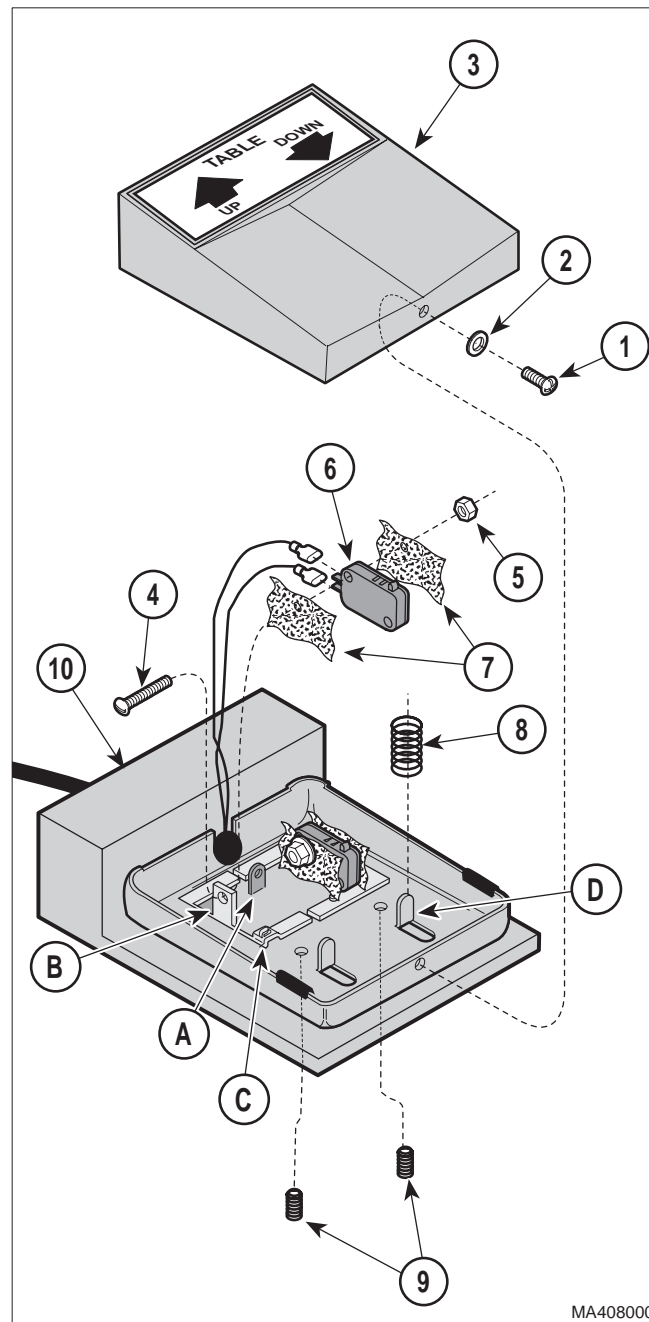

Figure 4-24. Footswitch Microswitch
- (1) Using the location tags, previously place on the electrical leads, connect the electrical leads to the microswitch (6, Fig. 4-24). If necessary, refer to Wiring Diagram, para 5.1.
Each pedal function, Table UP, Table DOWN has an allen head adjustment screw (9, Fig. 4-24) on the bottom of the footswitch assembly (10) beneath each pedal function. The adjustment screw raises or lowers the position of the microswitch of that specific function to position the switch closer or farther away from the pedal that actuates the switch.
- (1) Plug the table power cord into a wall outlet.
- (2) Lightly depress the specific function pedal and listen to and observe the table.